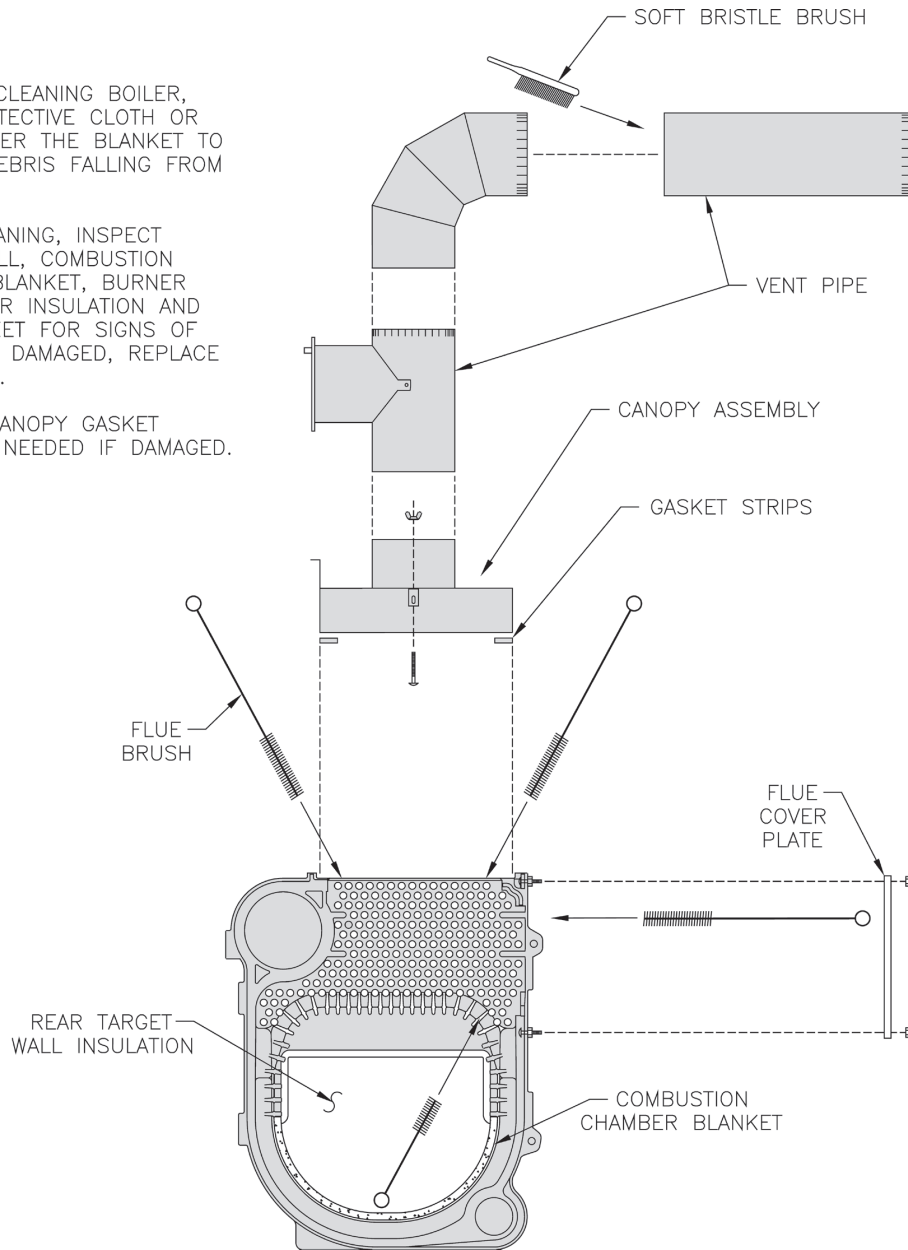

Figure 33: Cleaning of Boiler Flueways
A. CLEAN THE FLUEWAYS (See Figure 33).
2. For access to combustion chamber remove two (2) 5/16" - 18 cap screws, one on the right (1¼" long) and one on the left (3¼" long). If boiler is equipped with flexible fuel line(s), swing door open.